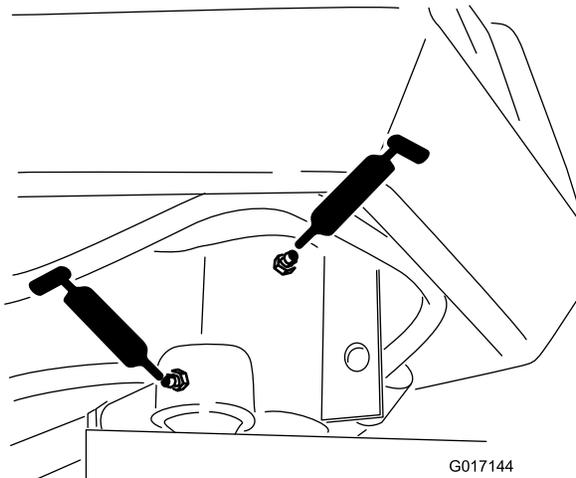

Figure 30
- Steering-fork shaft (1) (Figure 30)
- Steering-cylinder-rod end (Figure 30)